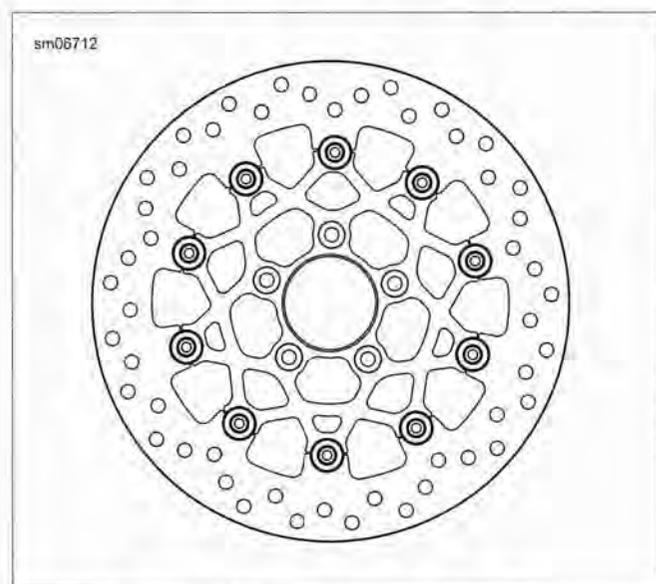

Figure 2-7. XR 1200X Front Brake Disc
**XR 1200X Model:** See Figure 2-7. XR 1200X models are equipped with a floating front brake disc. They are non-directional and do not need to be matched with opposite disc.